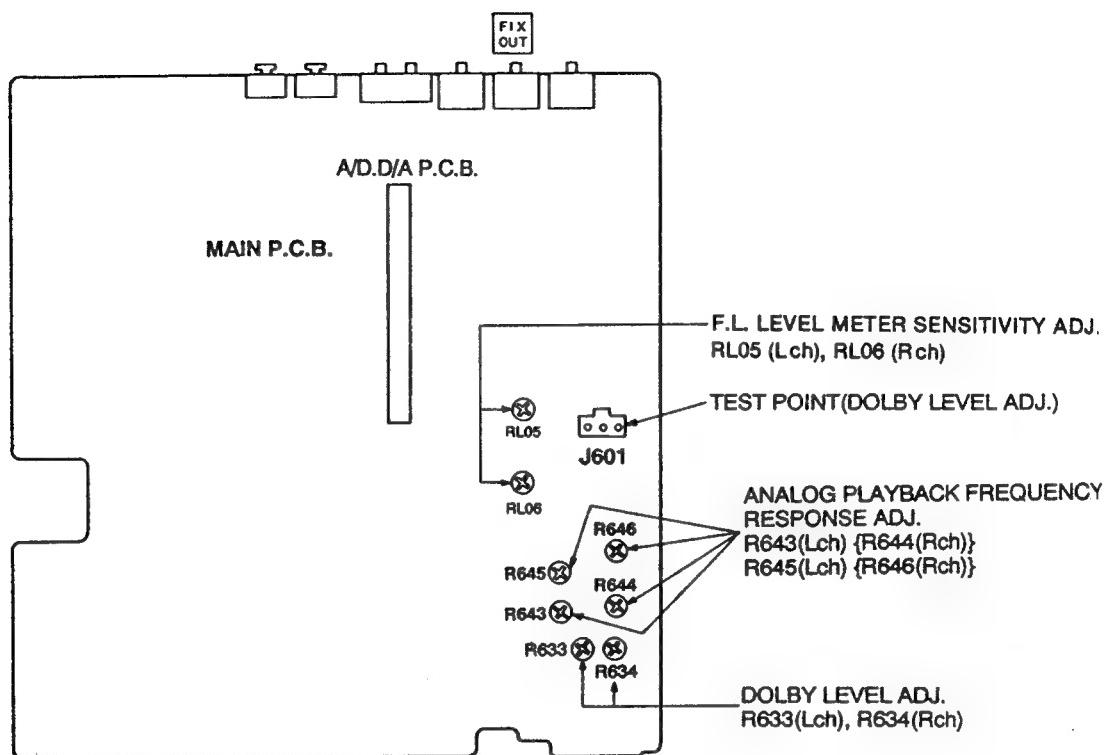

Fig. 25
- (1) While playing back the Dolby level tape (RFKZ0038), adjust the voltage at test point J601 to 338mV using R633 (Lch) and R634 (Rch) (See Fig. 25).
(See Fig. 25)
- (1) Load a DCC Blank tape (RFKZ0033) in the unit under test and place it in REC PAUSE mode.
- (2) Load the CD Test disc (SZZP1054C) in the CD player and play the second band (1kHz, 0dB, L+R signal).
- (3) Adjust potentiometers RL05 (Lch) and RL06 (Rch) so the DCC unit's FL level meters indicate 0 to -2dB (See Fig. 25).